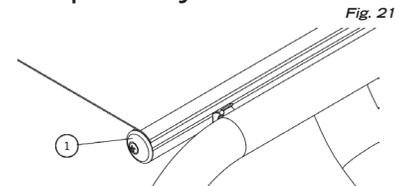

Fig. 21
- Remove end cap (1) (Fig.21).
- Reinstall end cap (1)